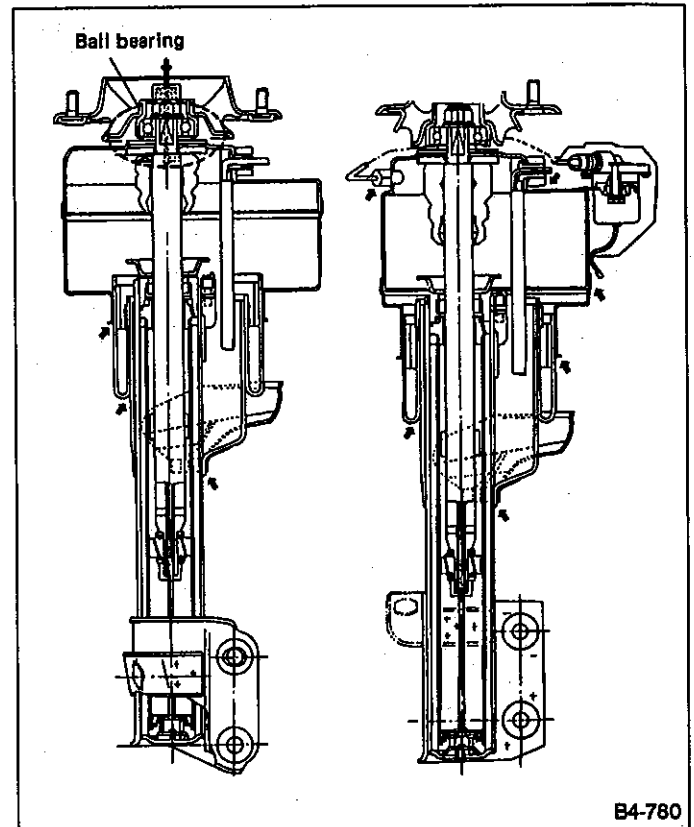

Fig. 109
- 2) Apply SUBARU CRC5-56 (004301003) to areas (shown by arrows in Figure 109) to check for air leaks.